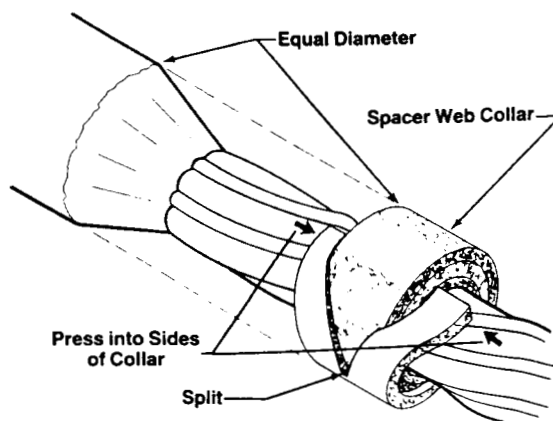

Figure 4
2. Split end(s) of spacer web and press into sides of collar(s). (Figure 4)